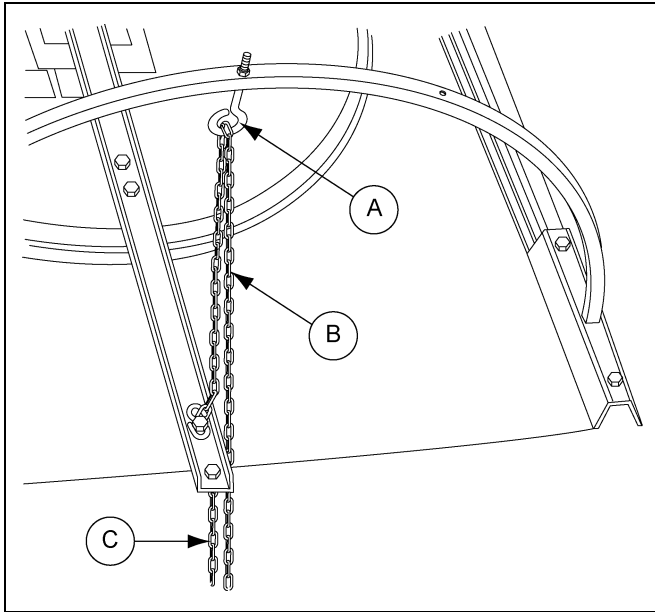

Figure 3
STEP 3: Attach eye bolt to the hoop and run the lifting chain through. Crimp S-hook to end of chain and attach to the lifting bracket with 5/16" x 1-1/4" bin bolt. (See Figure 3.)